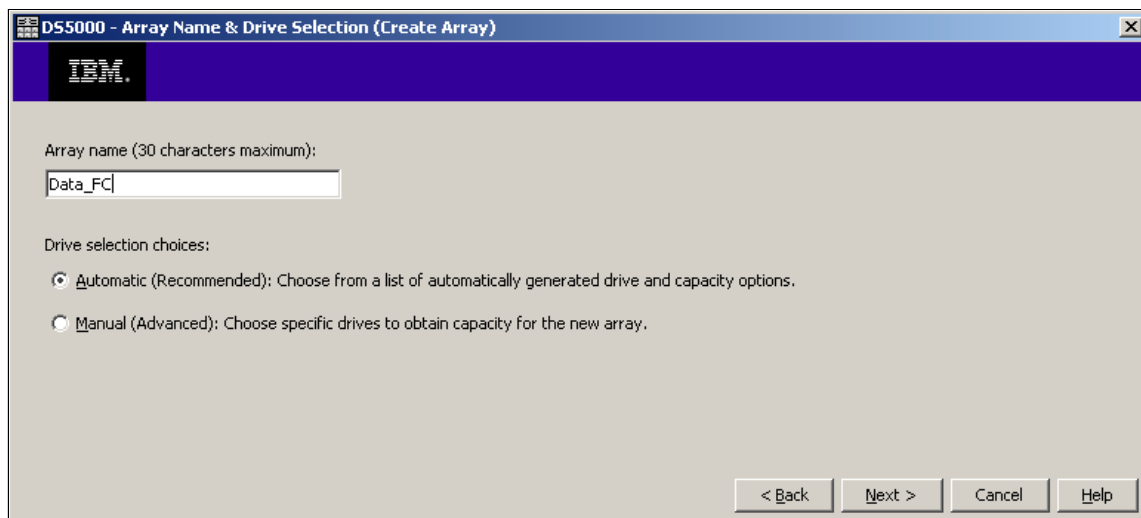

Figure 3-57 Create array and assign a name and mode
2. In the Create Array window, type a meaningful array name that describes your set of disks, and then select either Automatic mode or Manual mode. Automatic mode is the default option, as shown in Figure 3-57. By selecting the Automatic option, the Storage Manager software selects a combination of available drives to optimize performance and availability, and attempts to select physical drives from different enclosures in order to provide enclosure protection whenever possible. Click **Next**.